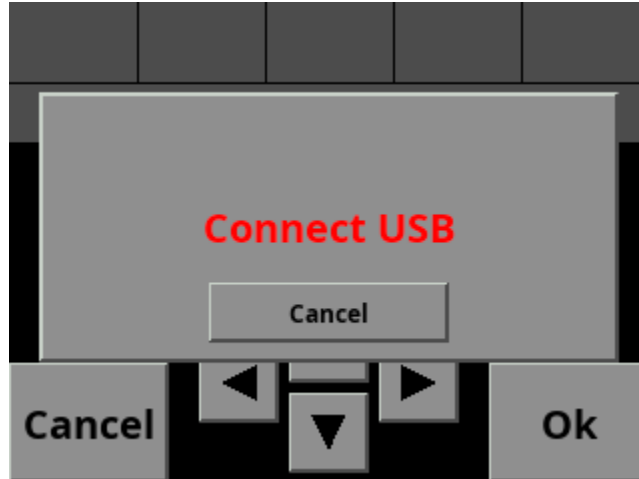

Figure 18: Export Settings screen with “Connect USB” message
- STEP 4: Press OK to begin exporting the file. Figure 18 should appear.